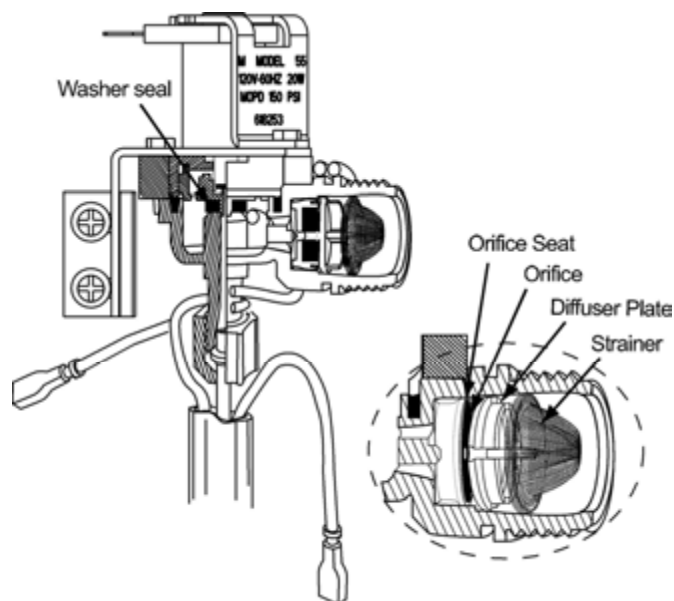

Figure 54. Solenoid water valve components
The water valve inlet strainer should be checked annually for scale and sediment deposits. The inlet connection internal components should only be checked when the mold overfills. To access the strainer and the components housed in the inlet fitting (see Figure 54):
3. Check strainer position. If the strainer is sealed approximately 1/8 inch in the fitting, the orifice seal, orifice, diffuser plate and strainer are in their correct position. A creased strainer end usually indicates that the diffuser plate, orifice, and orifice seal are not in their correct position. These components should be repositioned as shown in Figure 54. To reposition components correctly: